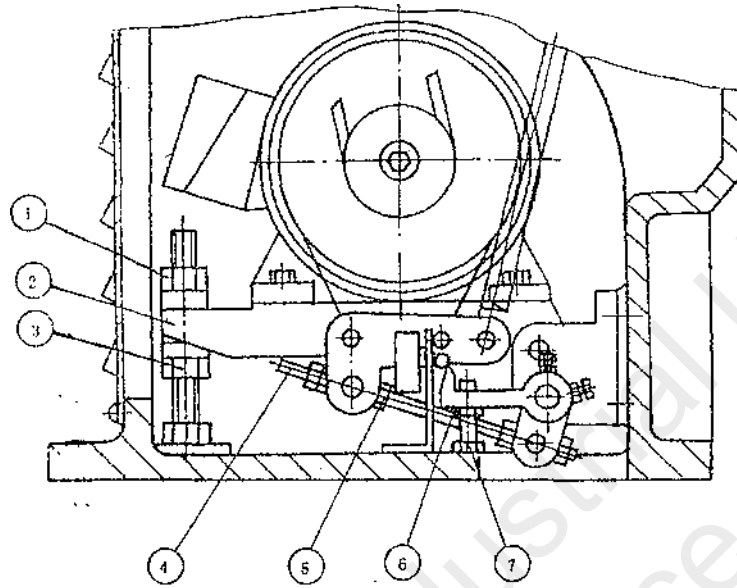

Fig.14 V-belts and Limit Switch Adjustment
6.2 Drive belts (refer to Fig.14)
- (1) Remove motor access cover (rear cover for left-hand base under the headstock).
- (2) Loosen adjusting nut (3) till desired tension is achieved.
- (3) Tighten jamb nut (1).
Note: changing the position of the motor mounting plate (2) will affect the well-adjusted brake device and the micro limit switch. It may be necessary to readjust both (refer to Fig. 14).
6.3 Brake adjustment (refer to Fig. 14)